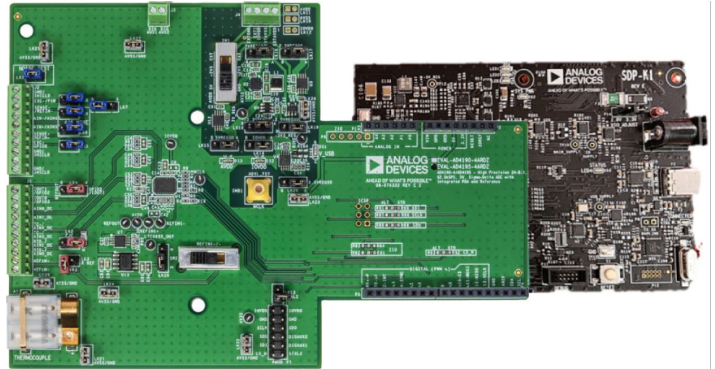

Figure 3. Hardware Configuration, Setting Up the EVAL-AD4195-4ARDZ Evaluation Board
3. Connect the SDP-K1 board to the EVAL-AD4195-4ARDZ board using the Arduino connector (see Figure 3).